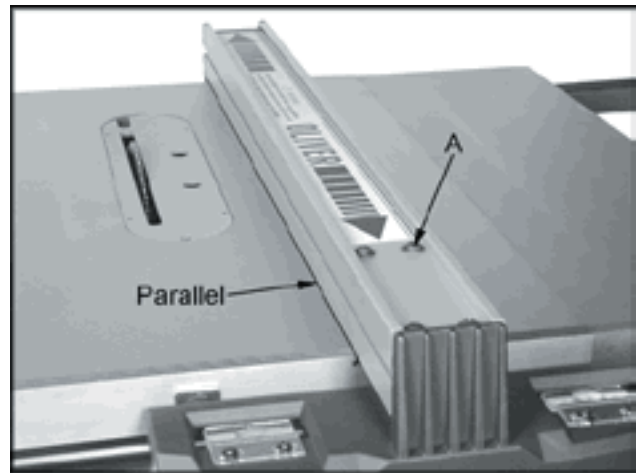

Figure 10
4. Move the fence into position so that the fence and the miter gauge slot align as shown in Figure 10. The fence should be parallel to the miter gauge slot. If not loosen the four screws (A, Figure 10).